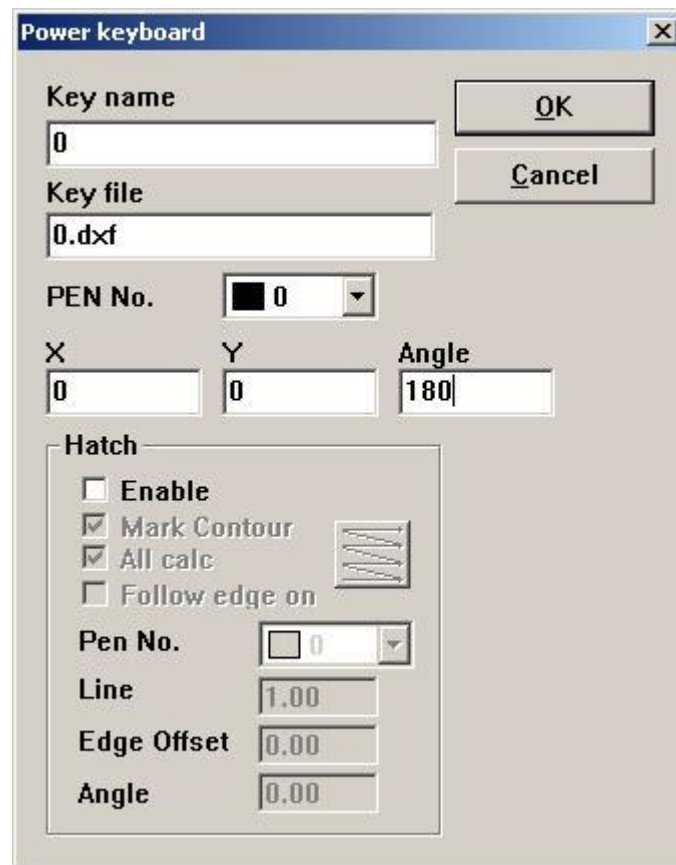

Figure 8-21
3. Click "Add" then the dialog box popup shown as Figure8-21: